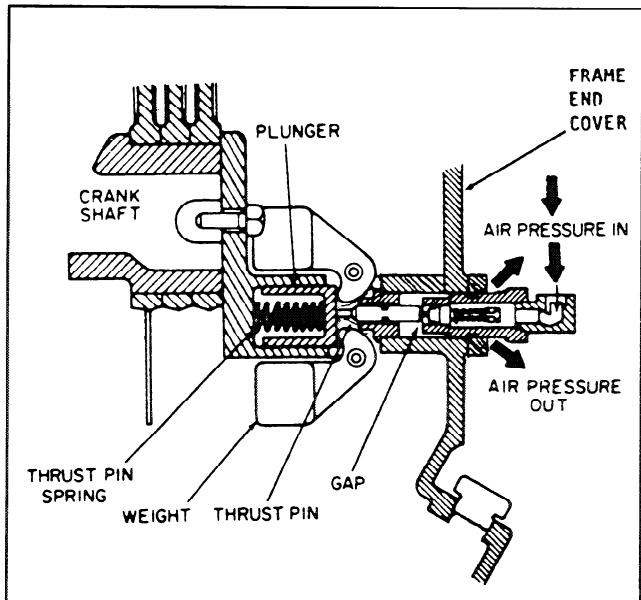
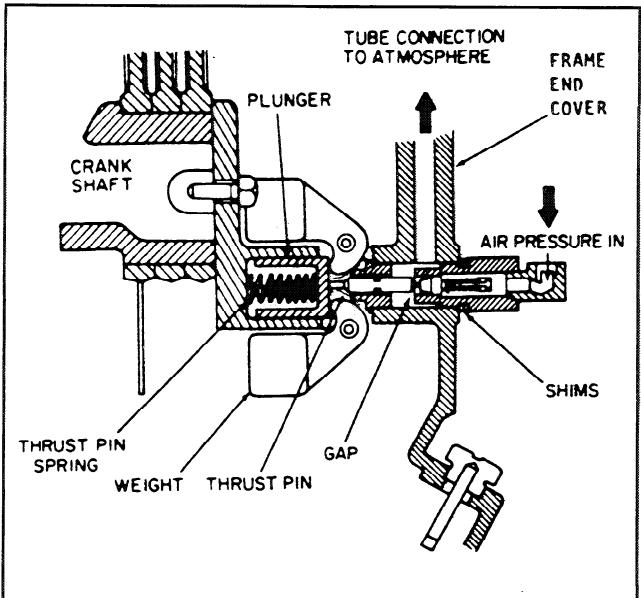
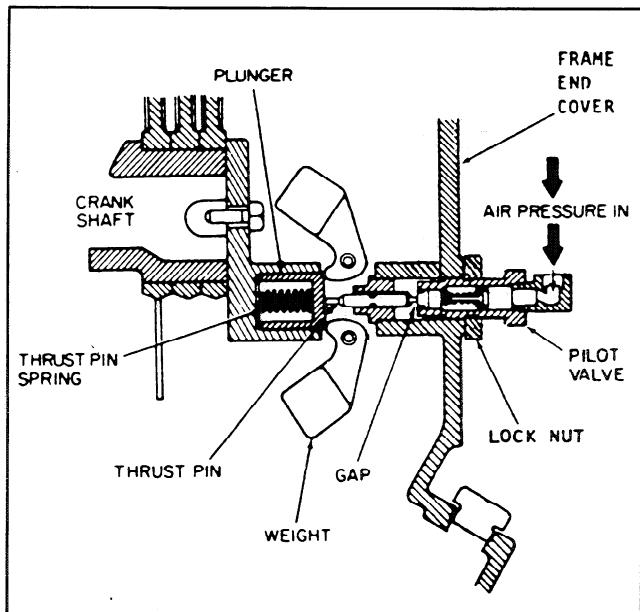
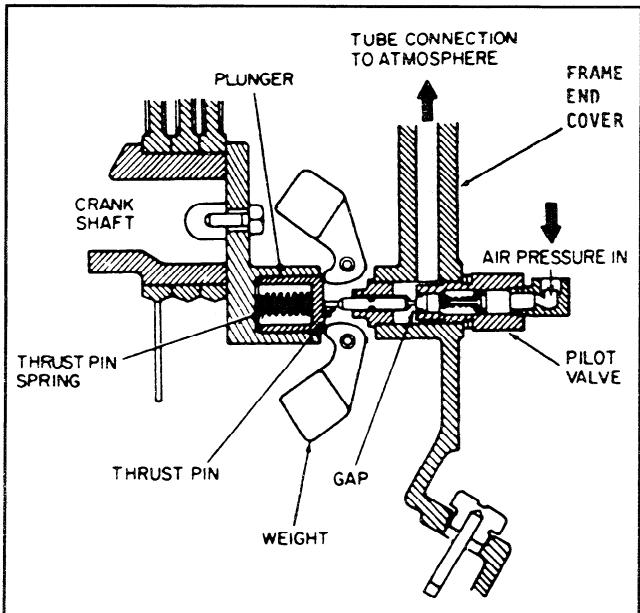

Figure 4-3. Position of weight and thrust pin when compressor is stopped. (Models 231, 41).
Figure 4-4. Position of weight and thrust pin when compressor is stopped. (Models 7T2, 15T2).
Figure 4-5. Position of weight and thrust pin when compressor is operating. (Models 231, 41).
Figure 4-6. Position of weight and thrust pin when compressor is operating. (Models 7T2, 15T2).
As shown in Figure 4-3 & Figure 4-4, the centrifugal unloader is attached to the end of the crankshaft, thus when the compressor is in operation, centrifugal force acts upon the unloader weights and they swing outward. (See Figure 4-5 and Figure 4-6). When the compressor stops, these weights retract. (Figure 4-3 and Figure 4-4) permitting the thrust pin spring to move the plunger and thrust pin outward. The thrust pin opens the pilot valve and the trapped air pressure escapes from the cylinder and intercooler through a passage in the frame end cover (See Figure 4-6), through the unloader tube and to atmosphere through the inlet filter/silencer.
To adjust the pilot valve, refer to Figures 4-3 and 4-5 for Models 231 and 41, and proceed as follows:
To adjust the pilot valve, refer to Figures 4-4 and 4-6 for Models 7T2 and 15T2, and proceed as follows:
5. Measure the gap between the pilot valve body and the frame end cover. (See Figure 4-4).